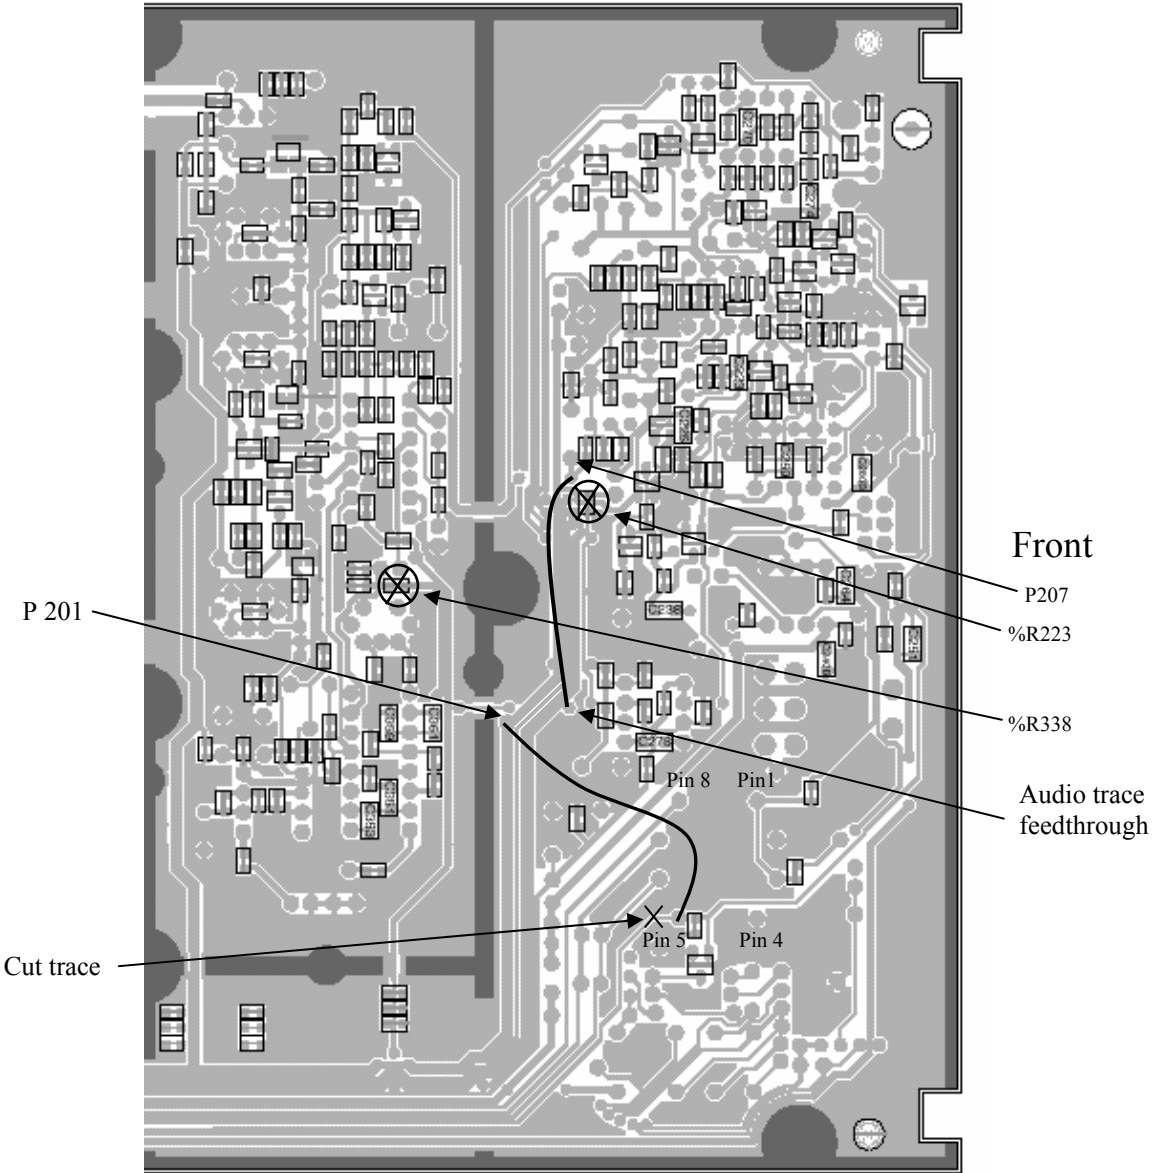

Figure 3 T835 PCB Layout- bottom side
6. On the bottom side, cut the trace between pin 5 of T210 and the pad going to pin 4 of DRANGE connector (PL100) Refer to Figure 3 page 8
7. Solder a 1.75" wire (26AWG) from the +9 volt feedthrough (pad 201) to pin 5 of T210. Refer to Figure 3 page 8
8. Remove %R223, a 10 ohm resistor (T-835 Audio Processor section). Refer to Figure 3 page 8
9. Remove %R338, a 100 ohm resistor (T-835 IF section). Normally not installed. Refer to Figure 3 page 8
10. Solder a wire gauge 26, 1.5" long in feedthrough connected to P207 to feedthrough on the audio trace **(It strongly recommended to see Figure 3 to locate this point).**